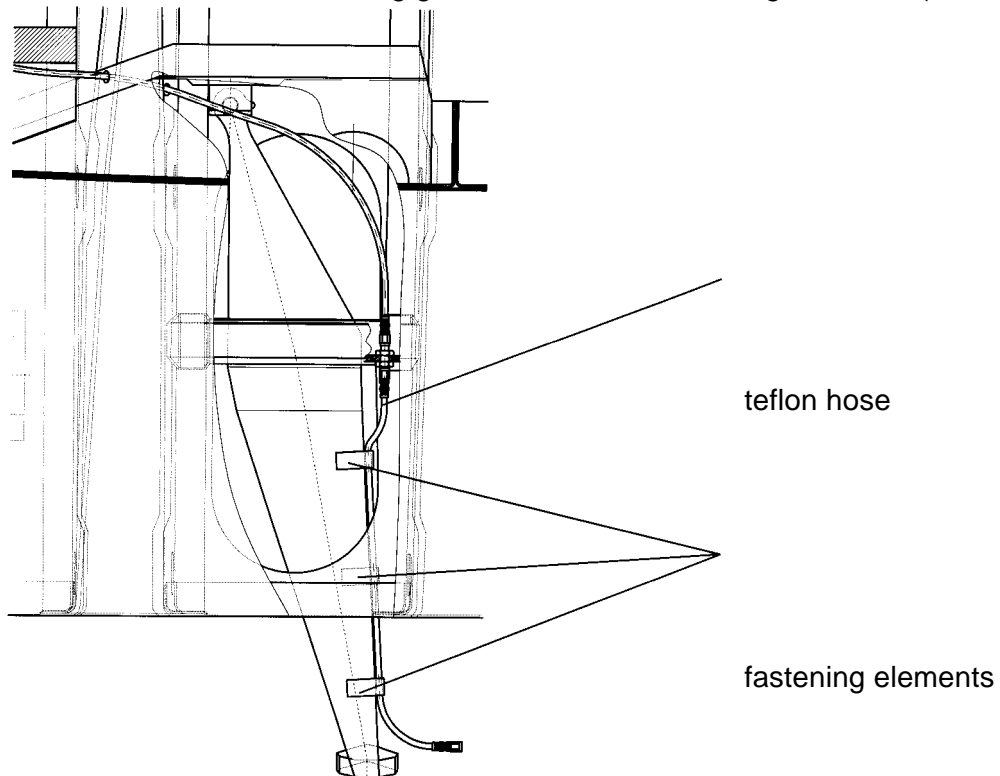

fig. 2
5. glue the fastening elements to the main landing gear strut with MS 9380 adhesive (see fig. 2)
6. attach the Teflon hose at both ends to the fittings, close the fittings and fix the Teflon hose to the main landing gear strut with the fastening elements (see fig. 2)